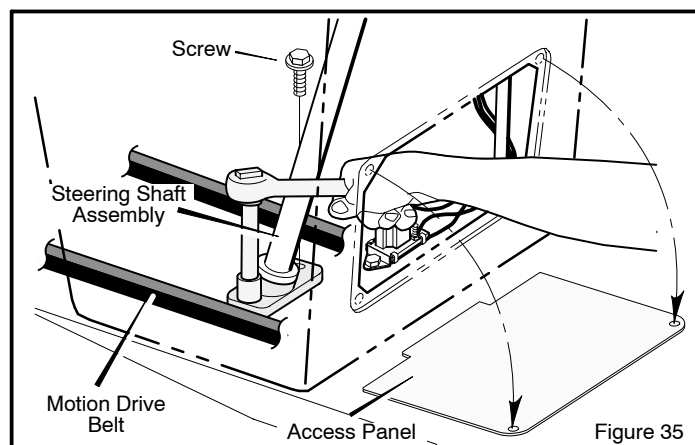

Figure 35
8. Remove the **access panel** (Figure 35).
9. Remove the two **screws** that attach the **steering shaft assembly** (Figure 35). Raise the steering wheel and **steering shaft assembly**. Pull the **motion drive belt** under the **steering shaft assembly**.
9. Attach the **steering shaft assembly** to the steering plate with two screws (Figure 35).
10. Attach the **access panel** (Figure 35).